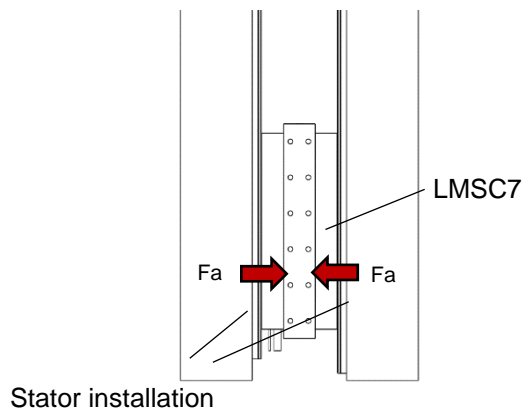

Figure5.1-26 LMSC force and stator installation illustration
- ▶ Any uneven air gap in the LMSC magnetic brake linear motor can affect the attraction force between the forcer and stator. (refer to Figure5.1-26)